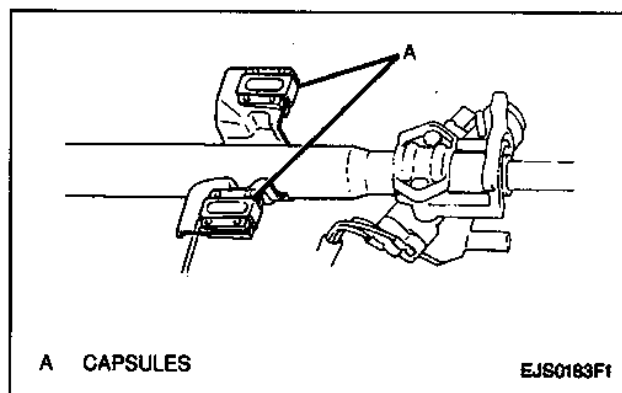

Figure 22—Inspecting Capsule
Figures 22 through 25
- Capsules on steering column bracket; each capsule should be attached securely to the steering column (Figure 22). If capsules are loose, the steering column assembly should be replaced.